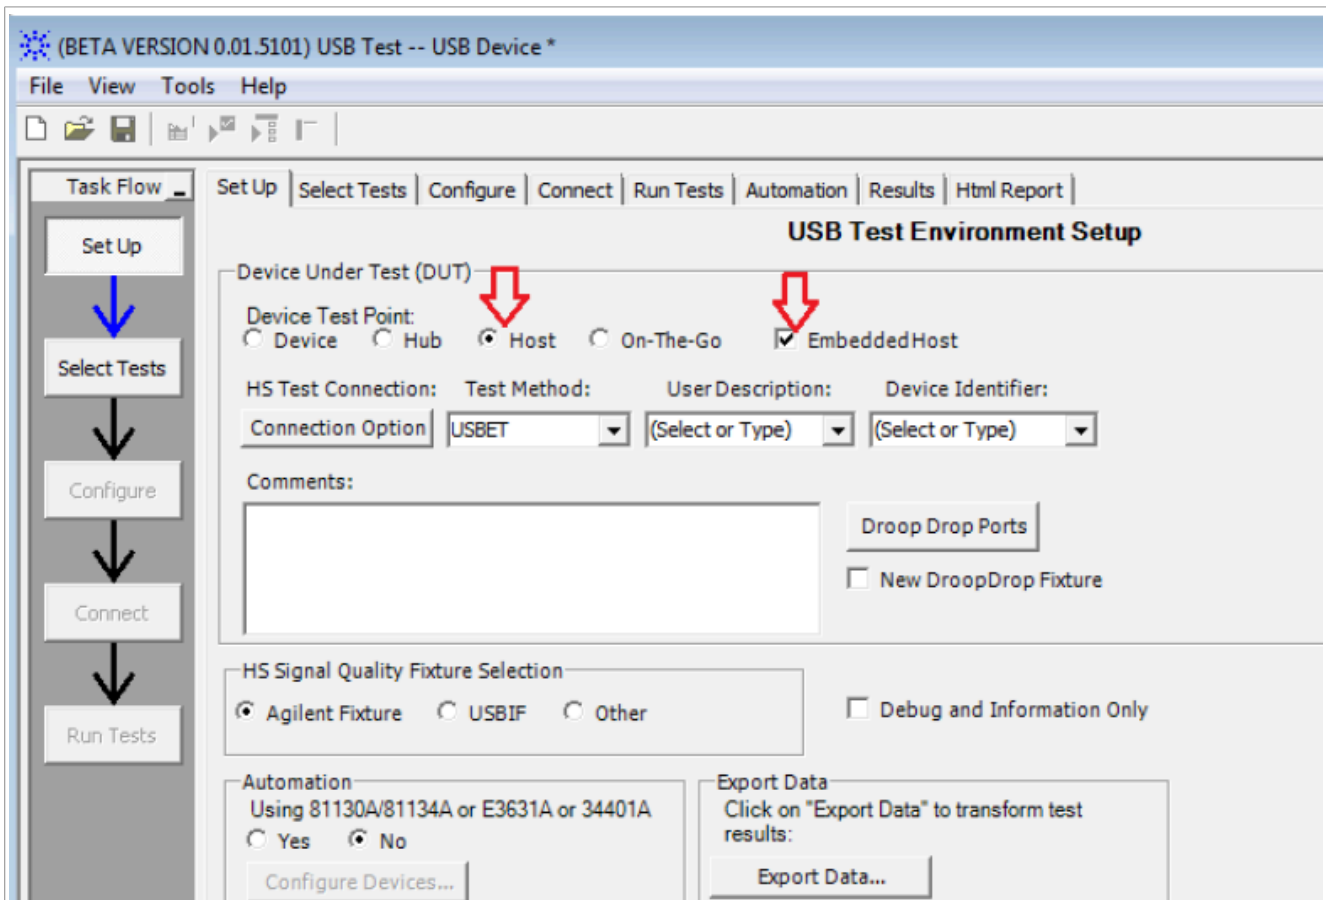
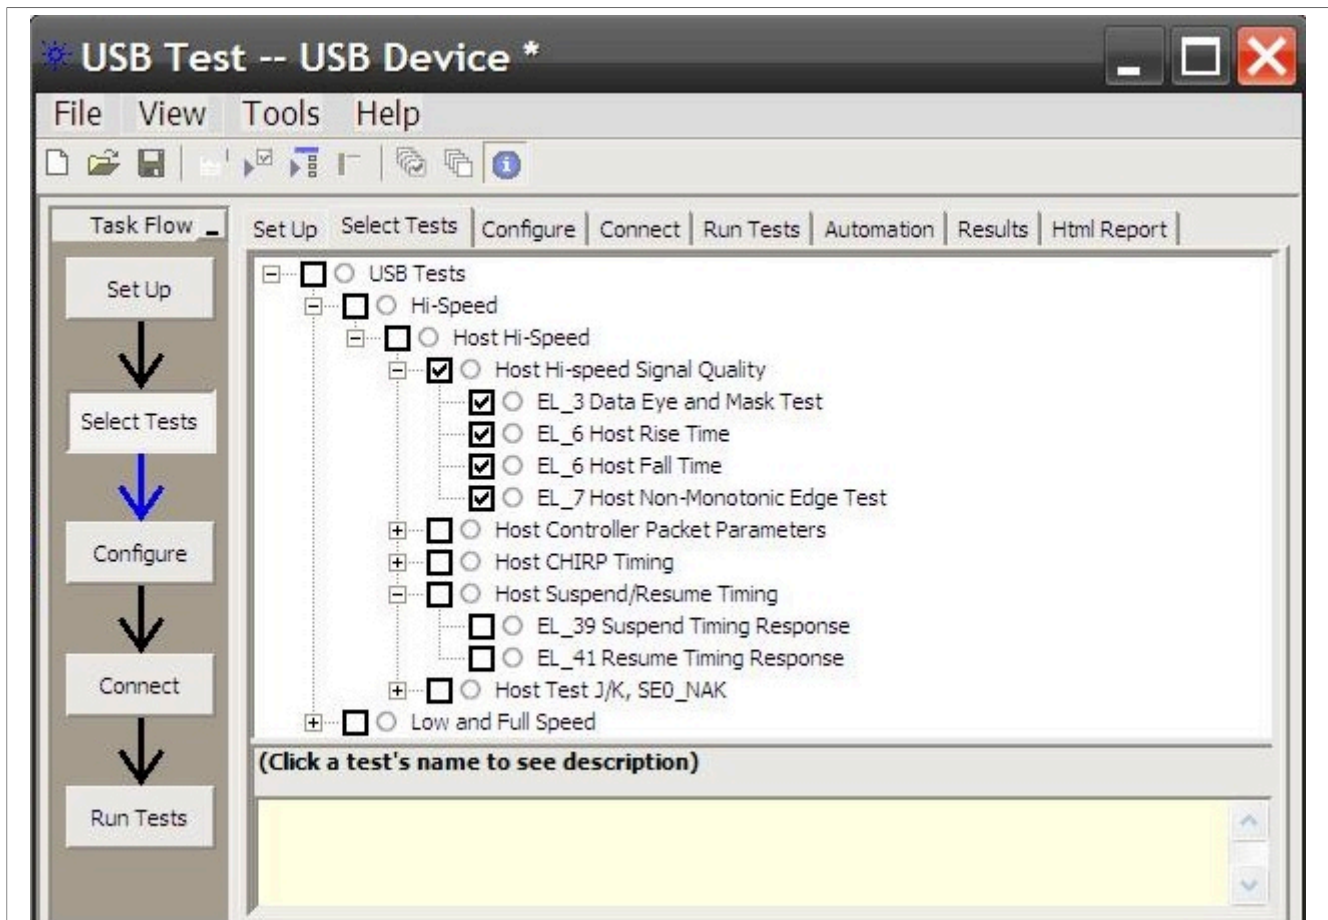

Figure 62. Select Embedded Host for HS Electrical Test
Figure 63. Host HS Signal Quality Test
1. Select the test items in the USB Automated Test Software on Oscilloscope as shown in Figure 62 and Figure 63 below, and make sure you set the Test Type configuration option to “Hi-Speed Near End” before running the test.